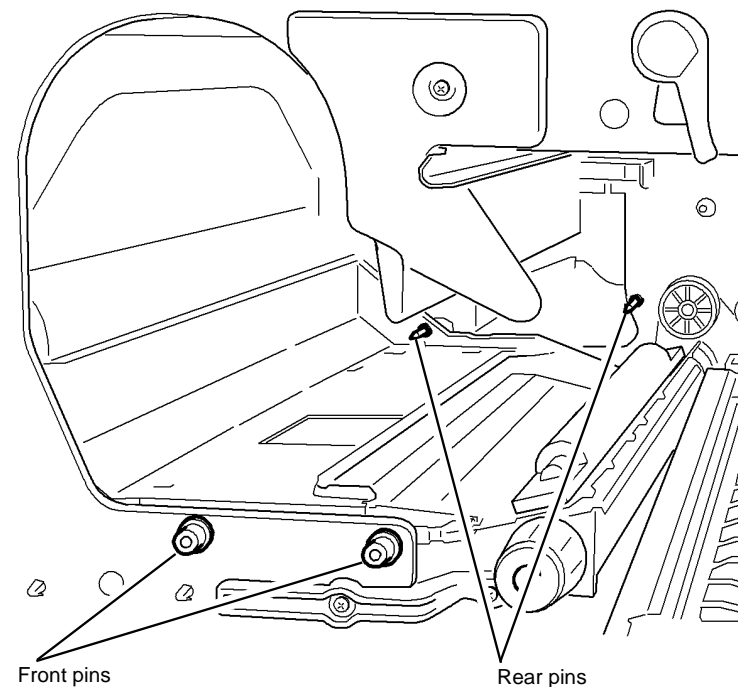

Figure 4 Developer assembly support pins
2. Figure 4, use plastislip grease, PL 26.10 Item 8, to lubricate the developer assembly support pins at the front and rear.